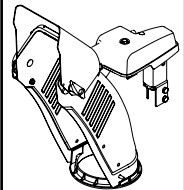

Figure 7
**NOTE:** On models with Overhead Chute Control (with Flex Shaft), Four-Way Chute Control, and Electric Chute Control cut cable ties securing flex shaft to the lower handle and set the flex shaft aside. Remove rubber bands securing cables to carriage bolts and cut cable tie securing shift rod to lower handle. Refer to Figure 7 to help identify the control styles.
Refer to Figure 7 below to identify your "Chute Control Style" and continue to the "Assembly" instructions for your specific style on pages 13 - 18.